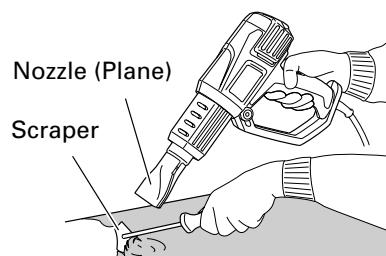

Fig. 6
**1. Peeling off paint (Fig. 6)**